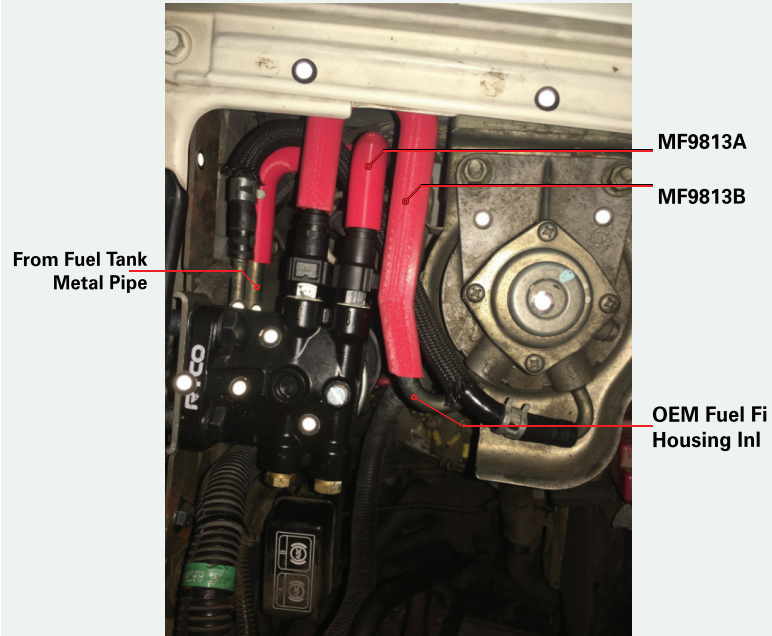

FIGURE 7A
- 5 Referring to FIG.7A/B, remove OEM fuel house that is connected between "from fuel tank" metal pipe & "OEM fuel filter housing inlet" metal pipe.